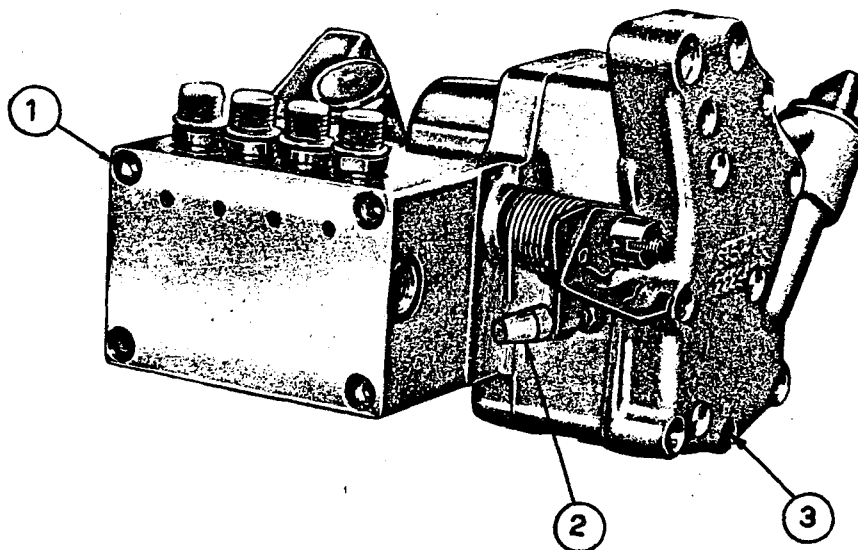

Fig. 39 - Location of Guarantee Seals
- fit the guarantee seals to the pump, as shown in figure 39, then by using the proper punch, stamp the LANCIA mark on seals (1) and (3).